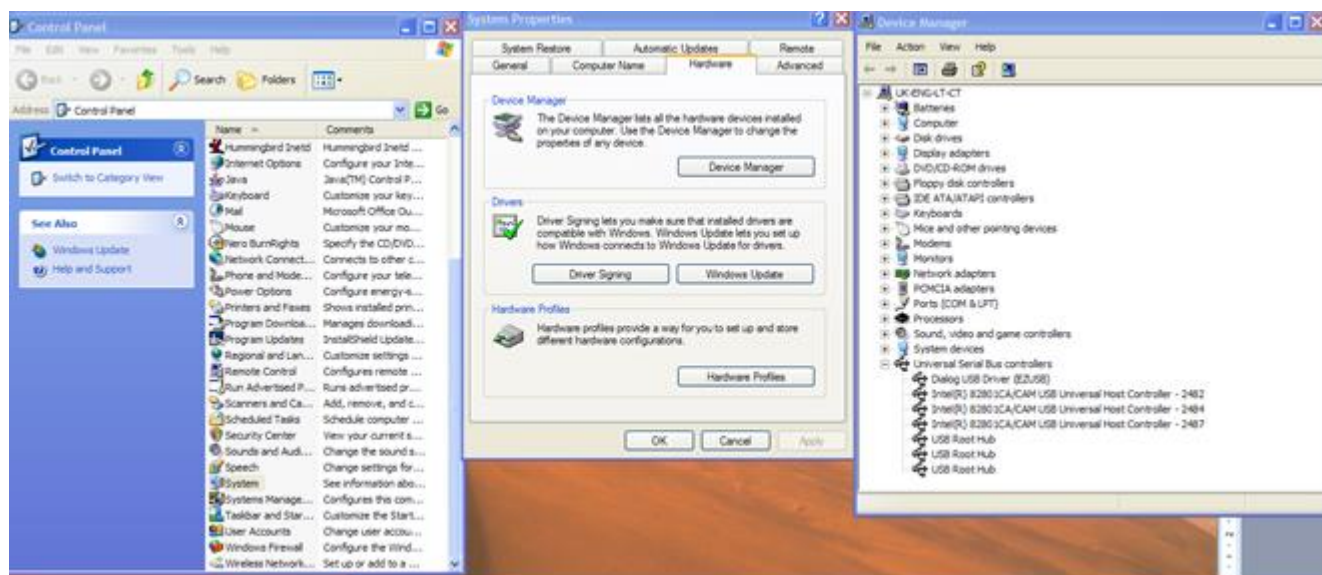

Figure 6: Installation Procedure
- If installed correctly, Dialog USB Driver (EZUSB) should be listed on **Device Manager** as shown in Figure 6.